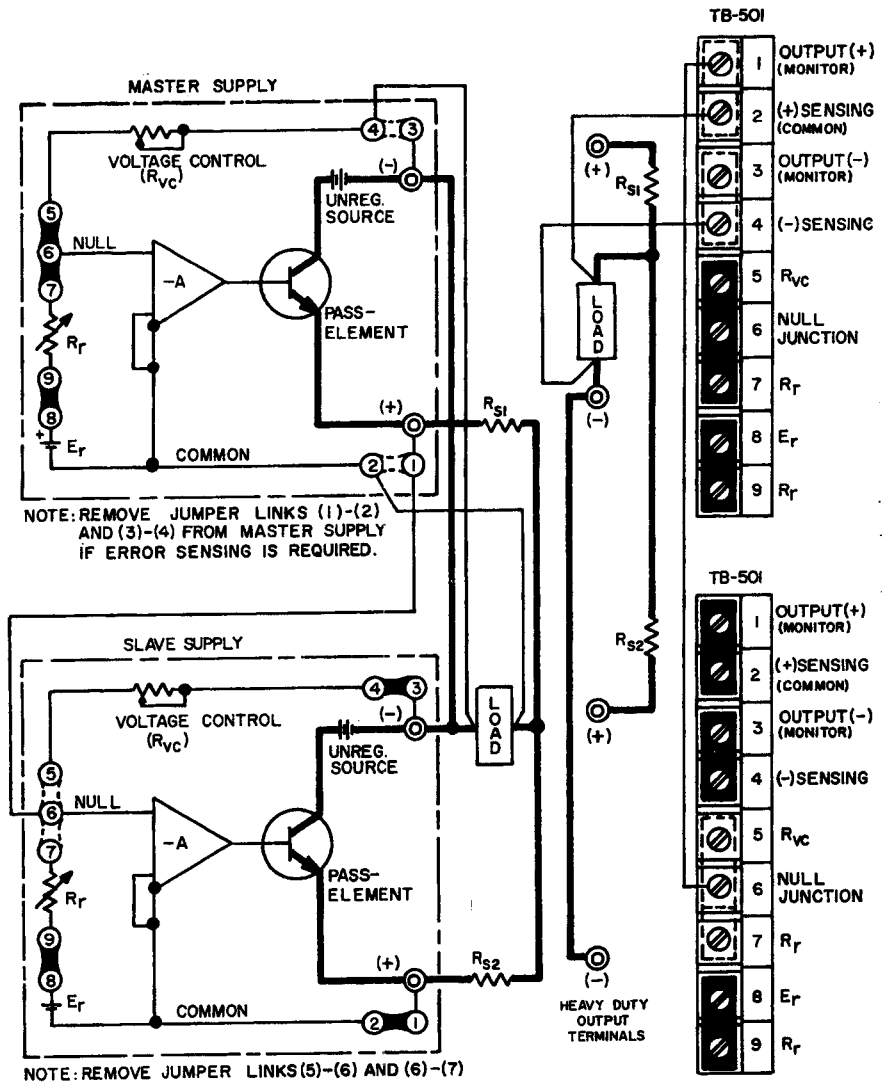

FIG. 3-14 MASTER SLAVE PARALLEL CONNECTION OF KEPCO POWER SUPPLIES
3-45 **MASTER/SLAVE PARALLEL CONNECTION.** Two power supplies are shown in FIG. 3-14, although more can be paralleled, each unit requiring its own sampling resistor. The sampling resistors ( $R_{s1}$ ,  $R_{s2}$  in FIG. 3-14) are of equal value and are selected such that the voltage drop across them (due to the output current), plus the voltage drop in the load connection leads does never exceed 0.5 volts. If the voltage drop across the load connecting leads alone is at least 0.1 volt, the sensing resistors can be deleted since the leads provide the necessary sample voltage. For equal current sharing, however, the lead *length* and *diameter* should be the same for both power supplies. Output control is exercised from the "Master" supply.
3-46 **PROCEDURE FOR "MASTER/SLAVE" PARALLEL OPERATION** (See FIG. 3-14)
- 2) Make all load and sensing connections as shown in FIG. 3-14. The error sensing connections may be deleted if the minor voltage drop across the load wires (which subtracts from the available compliance voltage) can be tolerated.